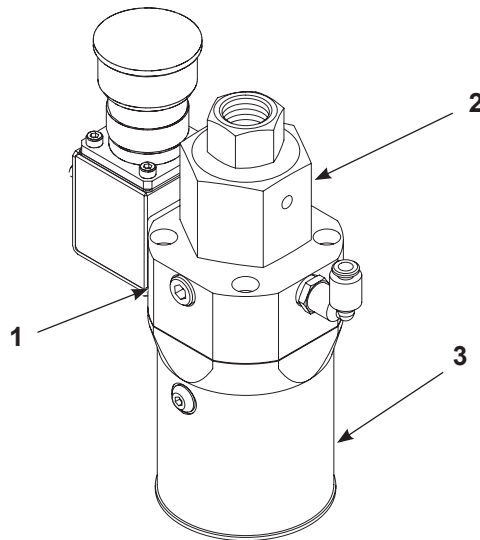

Figure 2 Applicator
**NOTE:** The swirl cartridge and swirl bearing retainer are not shown in Figure 2.
See Figure 2.